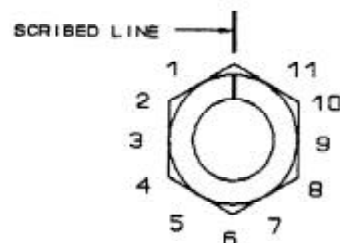

FIG. 2
5. Scribe a line on a convenient point of the nut and cylinder head as shown in Fig. 2.